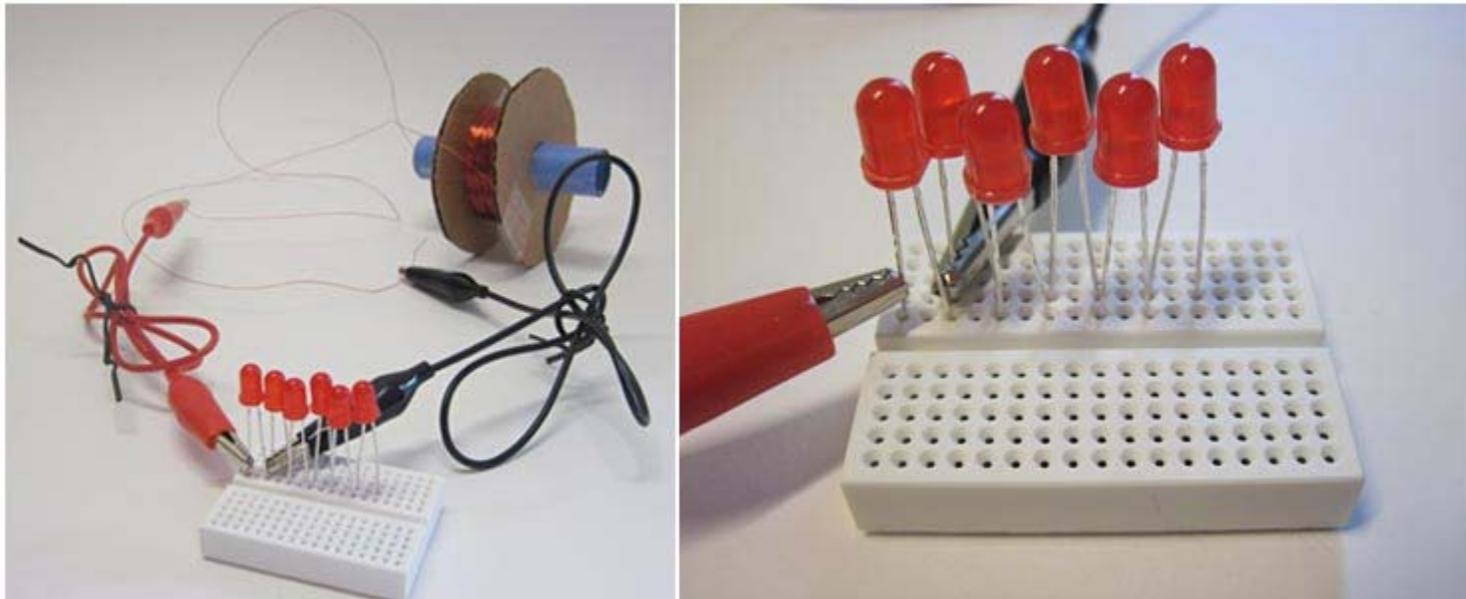

Figure 12. Connect the first LED to your generator coil with alligator clips, as shown here.
3. Use your alligator clips to connect the first LED to your coil form (which will function as a generator), as shown in Figure 12.
- a. With the breadboard facing you, as shown in Figure 12, clip the red alligator clip onto the left-hand (longer) lead of the first LED. Clip the black alligator clip onto the right-hand (shorter) lead of the first LED *or* the left-hand (longer) lead of the second LED.